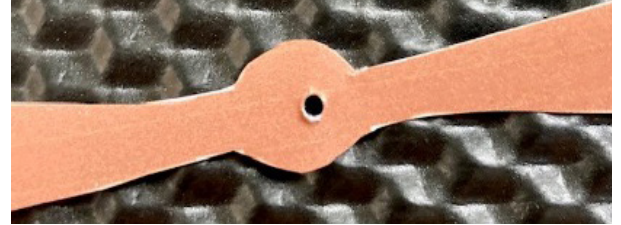

Figure 4. Poke a small hole in the center of each of the parts you cut out in the previous step.
- Make a small hole (see Figure 4) in the middle of each of the parts you cut out in the previous step. This can be done using a pushpin or other sharp object. This is to allow the toothpick to be pushed through the paper. Be careful poking the hole – you may need the assistance of an adult.